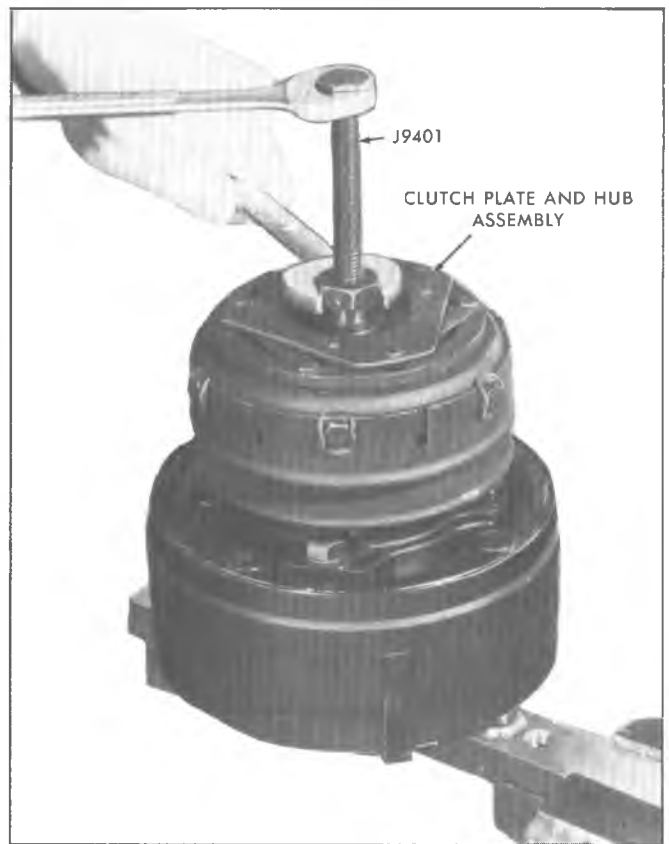

Fig. 4—Removing Clutch Plate and Hub Assembly
3. Thread clutch plate and hub assembly remover J-9401 into hub. Hold body of tool with a wrench and turn center screw into J-9401 remover to remove clutch plate and hub assembly (Fig. 4).